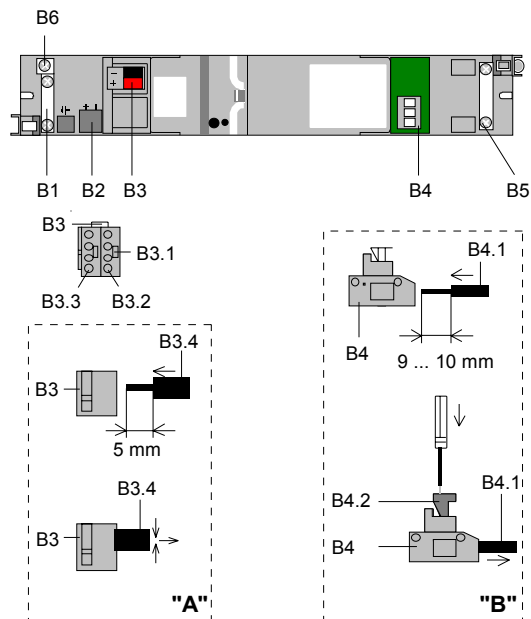

Figure 3: Connections
Slipping off bus connection blocks (Figure 3)
Slipping on bus connection blocks (Figure 3)
Connecting bus cables (Figure 3 "A")
- The sheathing of the bus cable must be attached to the casing of the built-in device via the conductor fixing (B1). When using a cable with shielding, it can be screwed onto the terminal (B6, Figure 3).
The recess (B2) can be used to accommodate an overvoltage protection which is connected to the bus connection block in parallel with the bus line (Figure 3).
Disconnecting bus cables (Figure 3 "A")
Connecting receiver cable (Figure 3 "B")
- The sheathing of the receiver cable must be attached to the casing of the built-in device via the cable clamp (B5, Figure 3).
Disconnecting receiver cable (Figure 3 "B")